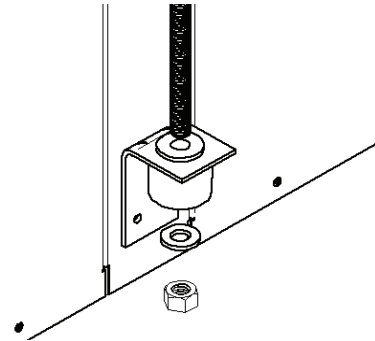

Fig. 7 — Unit Hanging
3. Install rubber grommet on the bracket as shown in Fig. 7.
4. Hang the unit and assemble the field provided thread rod, nuts and washers on to the brackets as shown in Fig. 7.